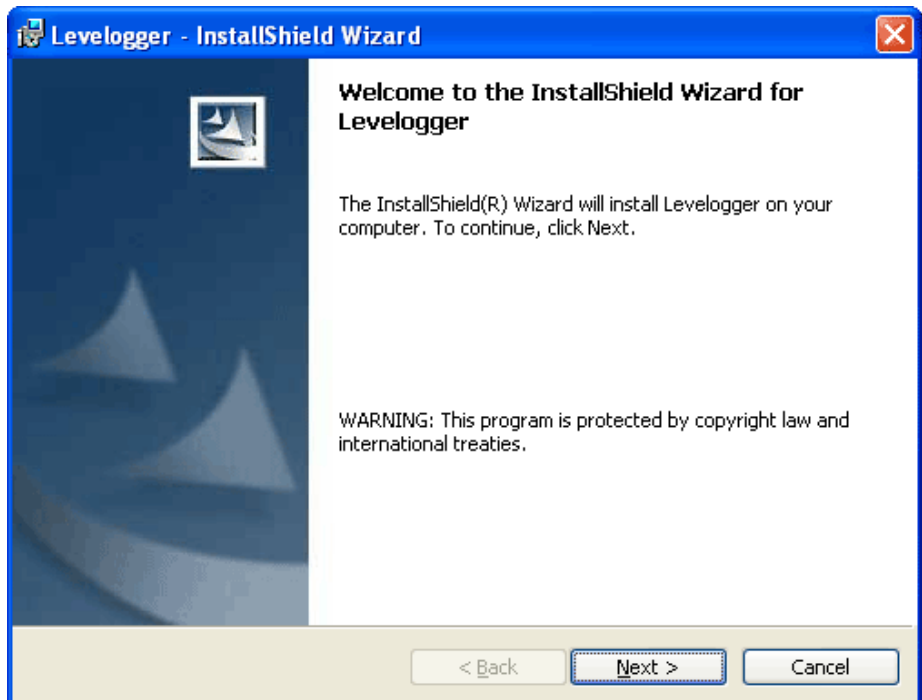

Figure 4-1 Levelogger - InstallShield Wizard
- 3) The Software Installation Wizard will guide you through the remaining installation process. Figure 4-1 shows the Levelogger Installation Wizard.